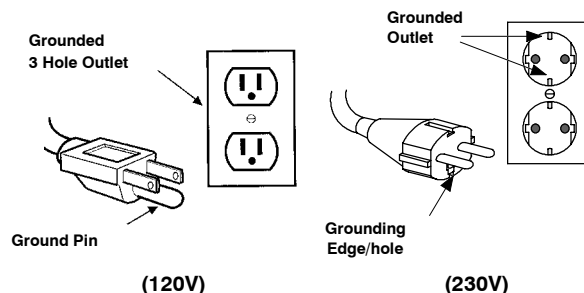

FIG. 28
5. With charger disconnected from machine, plug charger's power cord into a grounded wall outlet (Figure 28).